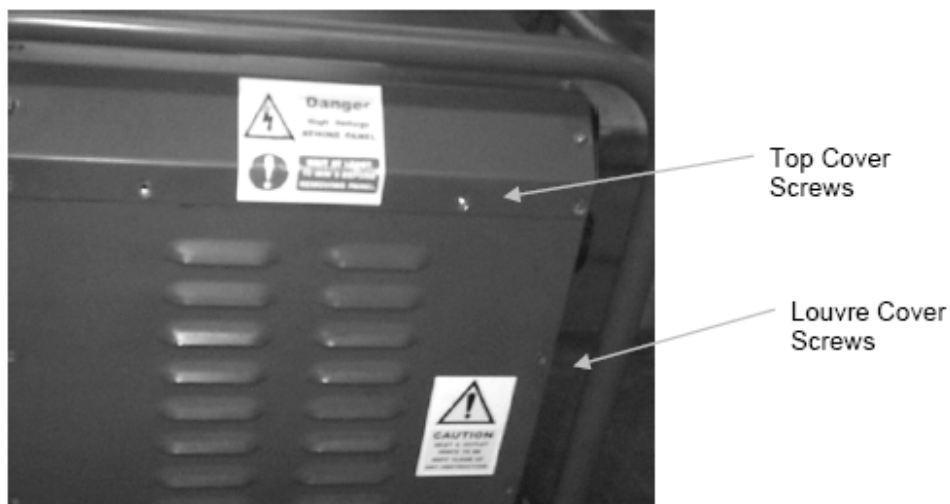

Fig 3 Louvre cover
23.1 Remove control box louvre cover top cover screws (Fig 3).
23.2 Remove and retain the 12 louvre cover securing screws fitted around the perimeter of the panel (Fig 3). Note that the two screws in the top corners of the panel are longer than the remainder as they pass through two sections of metal (the top and louvre covers). Care should be taken to ensure that these screws are refitted in the correct positions. Support the panel and ease from frame taking care not to damage the earth bonding lead.